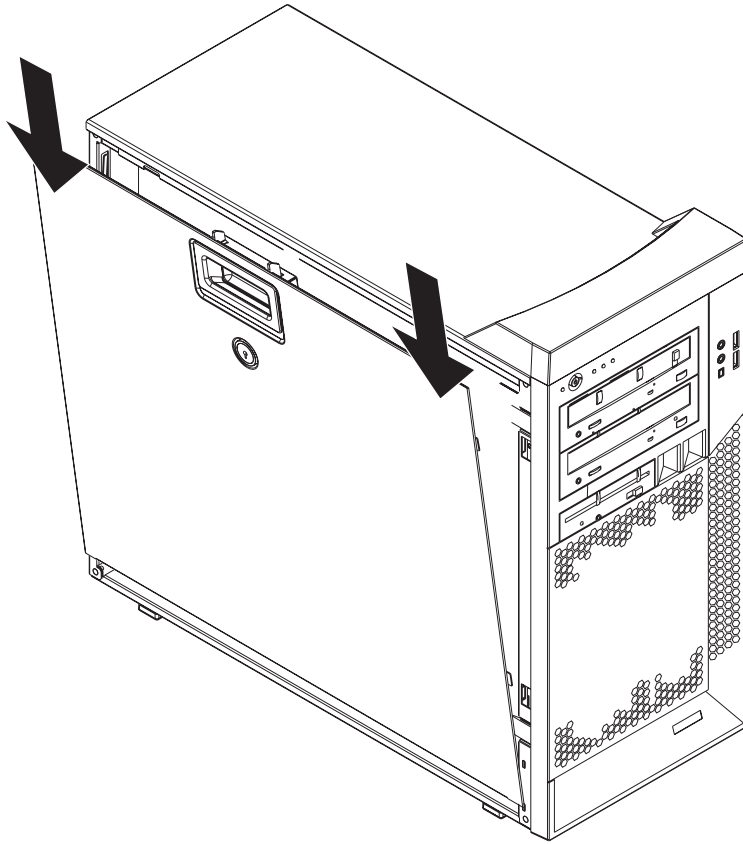

Figure 11. Installing the side cover
3. Insert the tabs inside the cover into the slots on the chassis (see Figure 11).